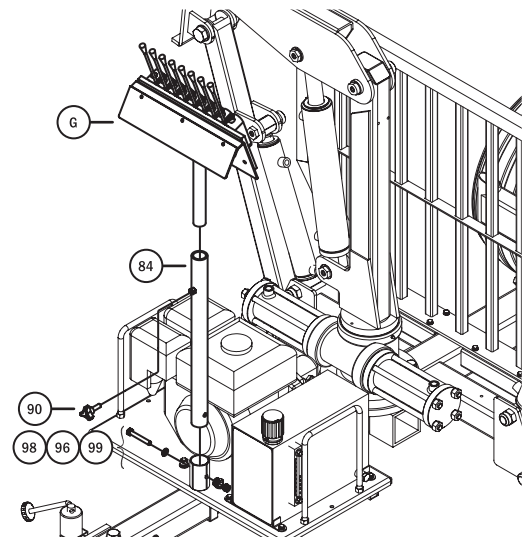

Fig. 13
Insert the Control Support Rod (84) into the socket on the engine tray and secure the tube by installing the Bolt (98), Washers (96), and Locknut (99). Tighten the fastener between 28 and 32 ft-lbs. Insert the Control Assembly (G, **Fig. 13**) into the Control Support Rod (84) to your desired height, then secure in place by installing the Locking Knob (90) and tightening by hand.